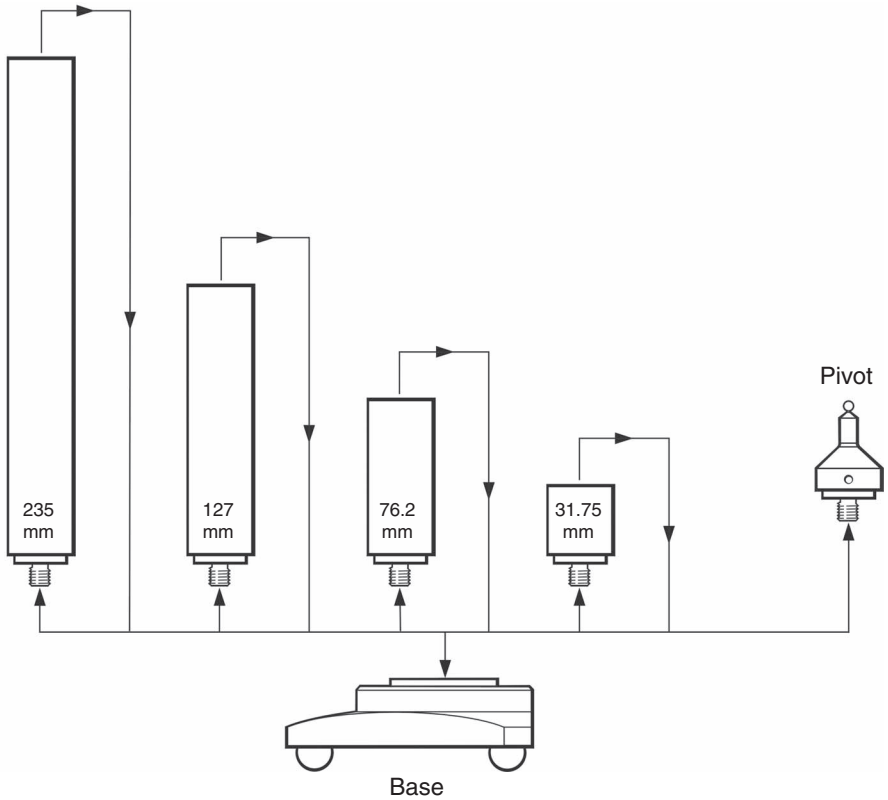

Figure 6 - Available pillar extensions
5. Towers of varying heights are possible by using the pillars in combinations as required (see figure 6).